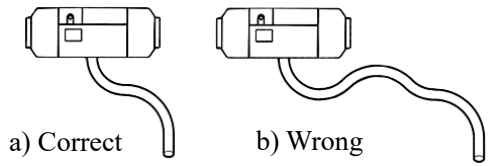

Fig.24
4.6.3 Both the air inlet pipe and exhaust pipe shall come outwards and downwards from the heater (Fig. 24), otherwise a  $\Phi 4\text{mm}$  hole shall be prepared at the bottom of the pipe for discharge of condensation water.